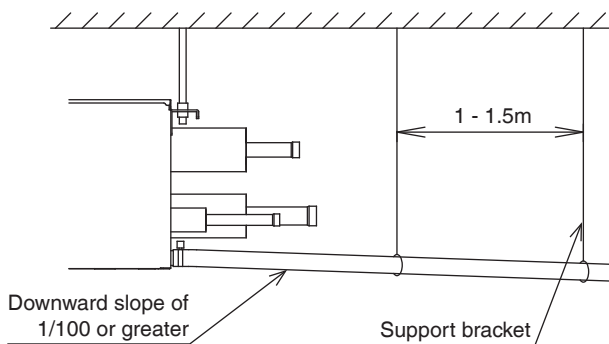

Fig. 4
- Use a short length of pipe and route it at a downward slope of 1/100 or greater such that air does not collect in the pipe. (Refer to Fig. 4 and 5.)
- Install support brackets at an interval of 1 to 1.5 m so that the pipe does not droop. **(Refer to Fig. 4.)**